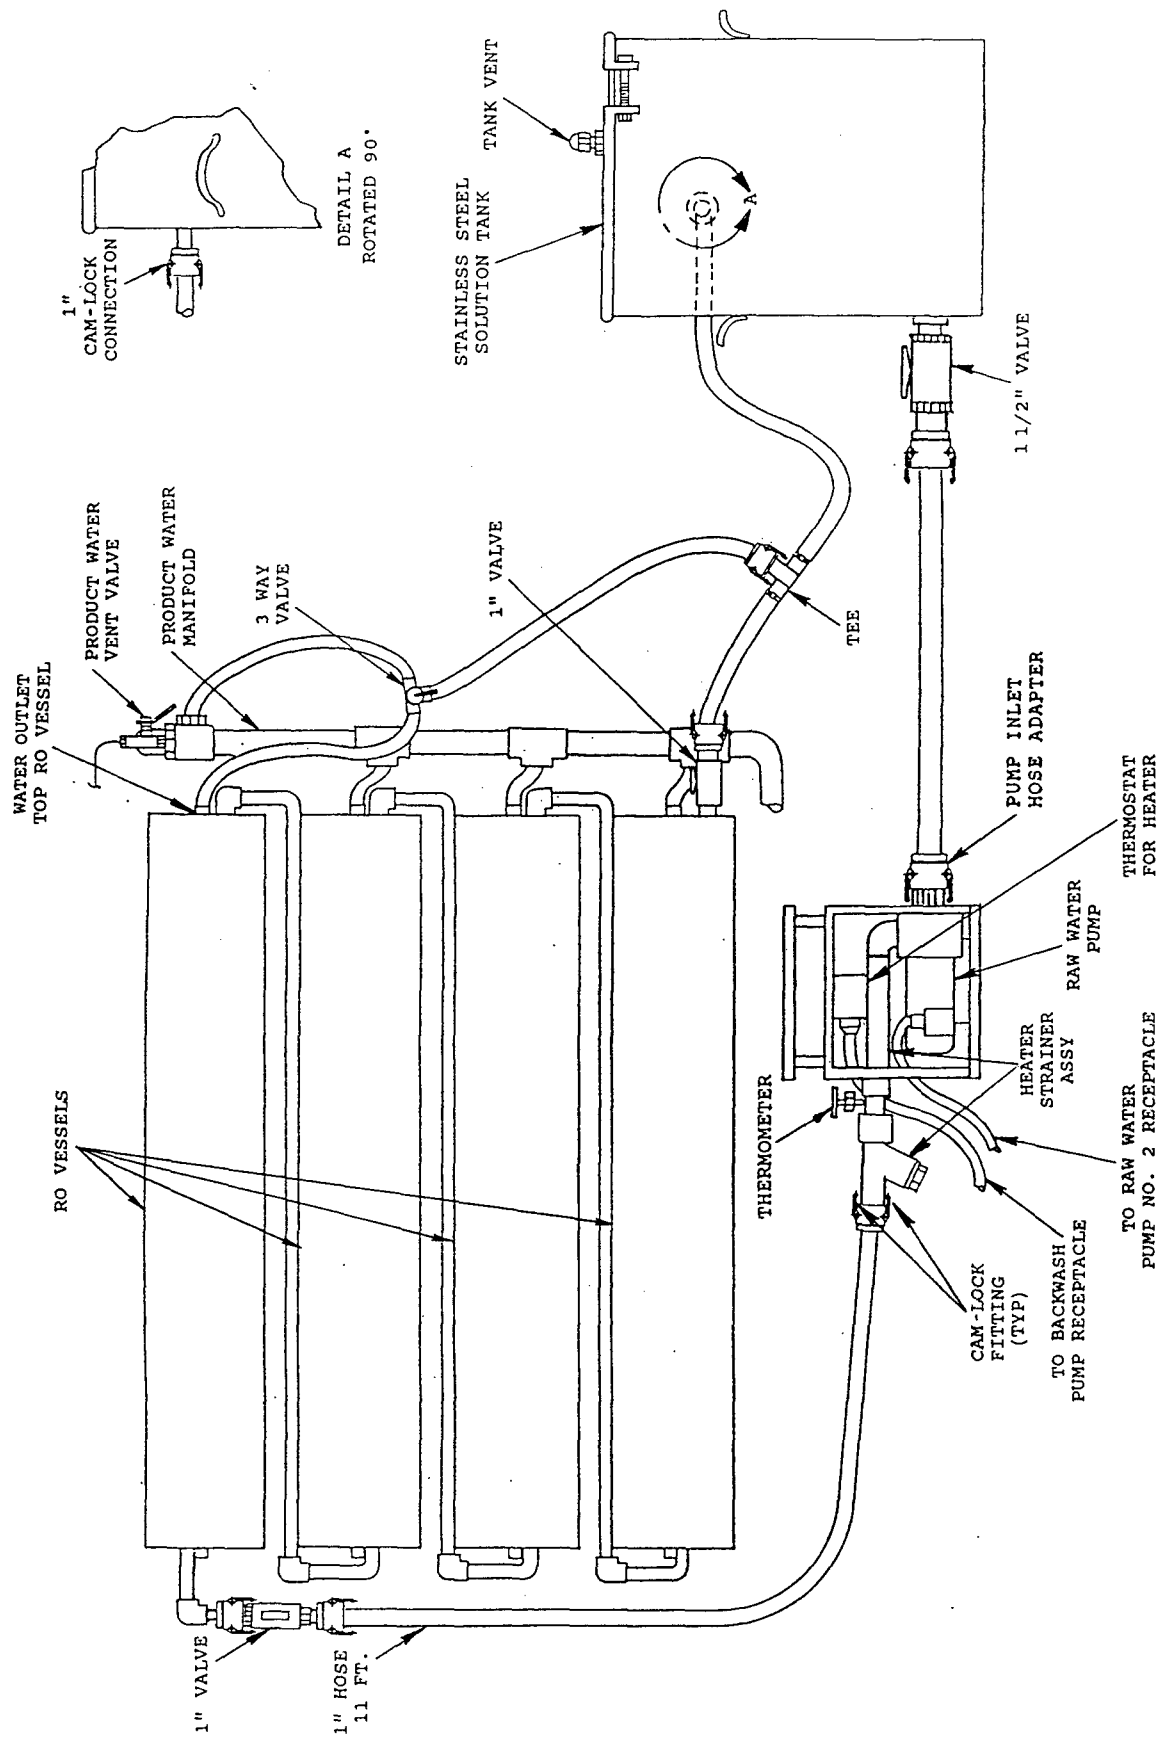

Figure 1-1. Reverse Osmosis Element Cleaning and Preservation System.
- 1-2.1 Physical Description. The basic set-up of the ROECPS and its attachment to the 600 gph ROWPU is shown in figure 1-1. This configuration is used for both the cleaning and preservation of the reverse osmosis elements. It allows the cleaning and preservation chemicals to bypass all pretreatment components and high pressure piping of the ROWPU in order to minimize the quantities of cleaning and preservative solutions used. This also reduces the potential for corrosion of the copper/nickel piping on certain versions of the 600 gph ROWPU. The ROECPS uses one of the ROWPU's raw water pumps to circulate the cleaning and preservative solutions through the elements. Power for the electrical heater that heats the solutions
RO vessel bypass assembly (not shown in figure 1-1).	Two 1 inch victaulic by quick disconnect fittings and 12 ft. section of 1 inch tubing with quick disconnect fittings. Connects between elbowed victaulics at inlet and outlet of top and bottom RO vessels. Allows flushing of complete ROWPU with freshwater without entering RO vessels.
- a. Position the solution tank at the left rear corner of the ROWPU approximately 2 to 3 feet from the ROWPU, as depicted in figure 1-1.
- b. Position the raw water pump approximately 3 feet from the solution tank. The suction of the pump should be facing the 1-1/2 inch fitting located at the bottom of the solution tank. Rotate the elbow at the discharge of the pump so it points toward the right side of the ROWPU, see figure 1-1.